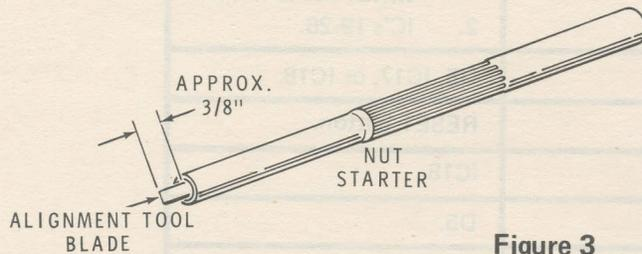

Figure 3
- (✓) Refer to Figure 3 and push the alignment tool blade into the small end of the nut starter as shown. This will be used as an alignment tool in the following steps.